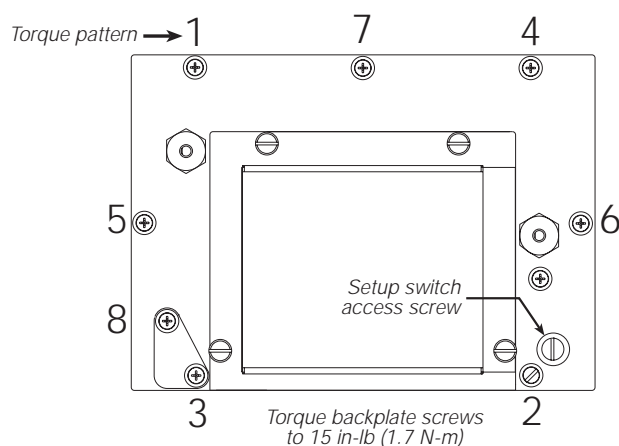

Figure 2-4. IQ plus 590-DC Enclosure Backplate
- One 8-32NC x 7/16 fillister head screw (PN 30623). This screw occupies the hole below the setup switch access screw on the indicator backplate (see Figure 2-4 on page 7).
Once cabling is complete, position the backplate over the enclosure, reconnect battery cable, and reinstall the backplate screws. Use the torque pattern shown in Figure 2-4 to prevent distorting the backplate gasket. Torque screws to 15 in-lb (1.7 N-m).
To replace the CPU board, reverse the above procedure. Be sure to reinstall cable ties to secure all cables inside the indicator enclosure. Replace backplate and torque screws as shown in Figure 2-4.